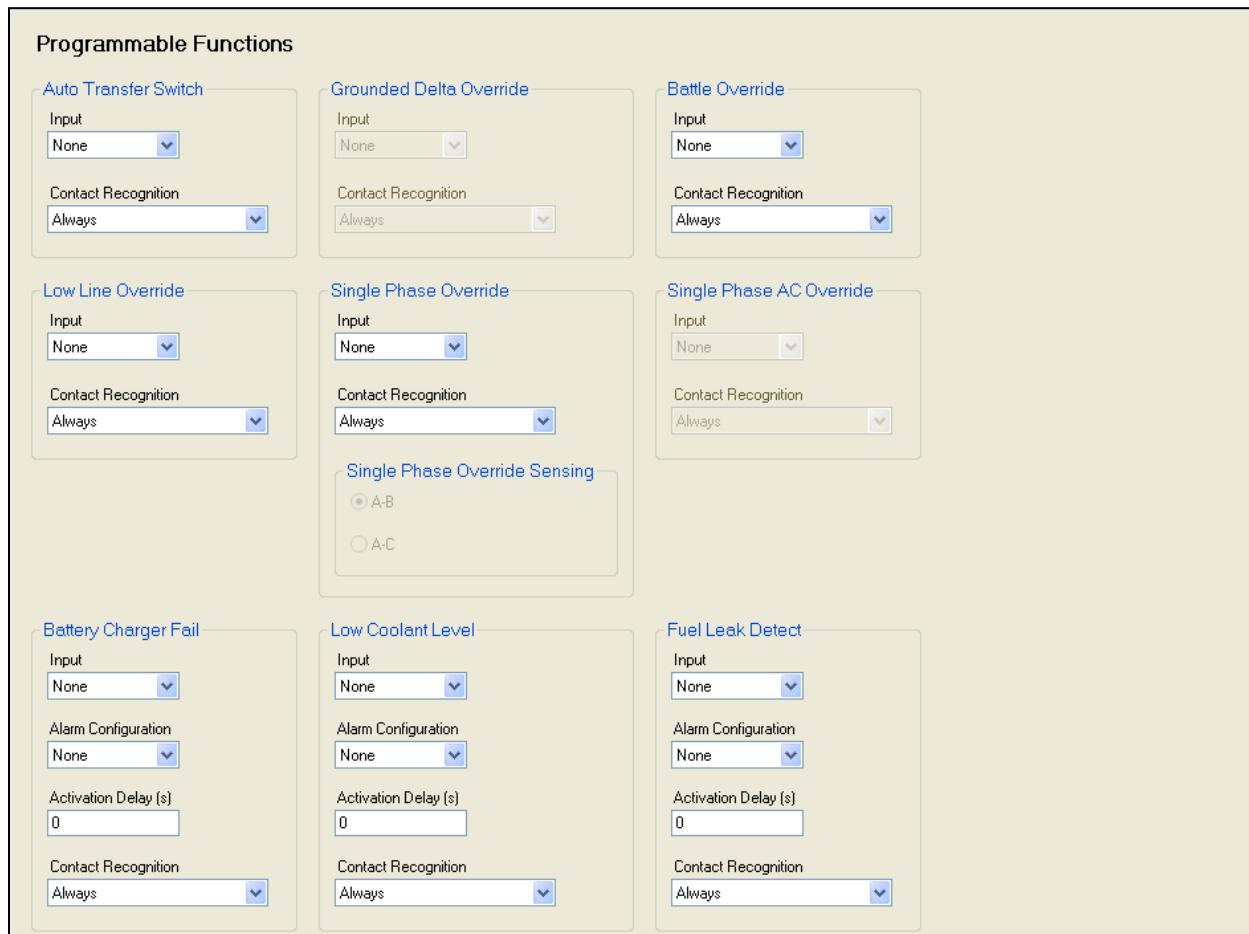

Figure 6-41. Settings Explorer, Programmable Inputs, Programmable Functions Screen
2. Configurable Programmable Functions on the DGC-2020. See Figure 6-41.